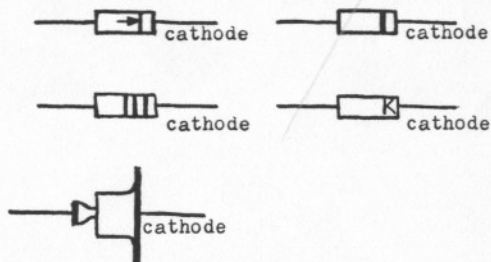

fig. 1. typical diode case outlines
- F. Observe the diodes which will be installed. They will probably have a case outline and be marked in a manner illustrated in figure 1. The purpose of the marking is to indicate which end of the diode is the cathode. Usually the band or the letter is at the cathode end, the arrow head points toward the cathode end, or the bands are clustered toward the cathode end of the diode.